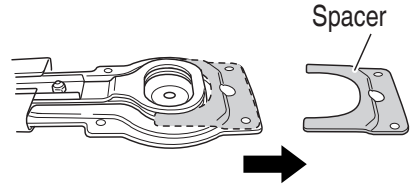

Fig. 7
- (2) Remove the spacer from the old blade. (Remove any cutting or dust from inside of the housing.) (**Fig. 7**)